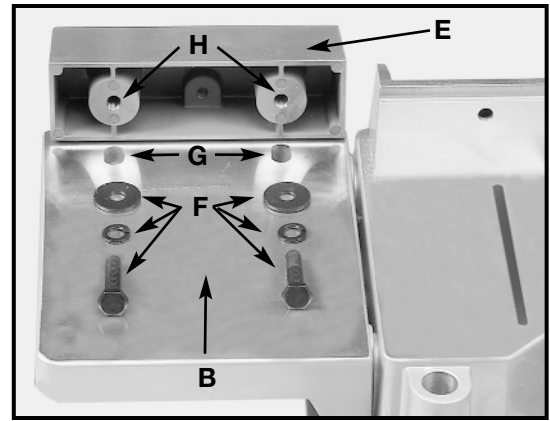

Fig. 7D
- Attach the fence slide support (E) Fig. 7D, to the extension table (B) by using the two 5/16-18 x1 1/4" long hex head screws, 5/16" lockwashers and 5/16" flat washers (F). Place lockwasher, then flat washer on screw and bring screws up through the two holes (G) in table extension and thread them into the two threaded holes (H) on bottom of fence slide support.